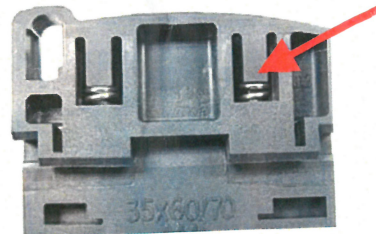

Figure 3
7. The bracket on the top rear of the "new style" contactor is spring loaded (see Figure 3). This allows the contactor to be mounted to a DIN rail. The DIN rail can be snapped in by first inserting it at an angle, while pushing it towards the springs (see Figure 4). Then finally snapping the rail into the bottom of the contactor bracket (see Figure 5).